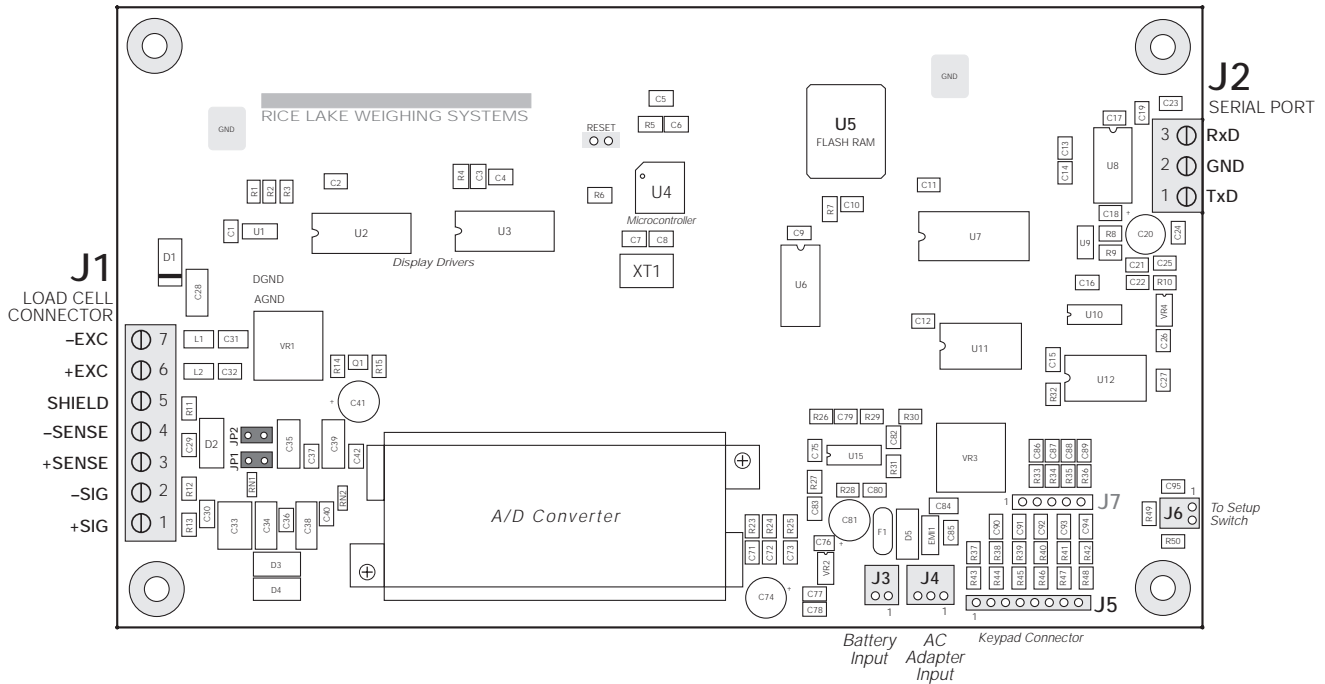

Figure 2-3. 9390 CPU Board
To attach cable from a load cell or junction box, remove connector J1 from the board. The connector plugs into a header on the board. Connect cable from the load cell or junction box through the load cell cable cord grip to connector J1 as shown in Table 2-1. If using 6-wire load cell cable (with sense wires), remove jumpers JP1 and JP2 before reinstalling connector J1 (see Figure 2-3). For 4-wire installation, leave jumpers JP1 and JP2 on.
To attach serial communications cables, remove connector J2 from the board (see Figure 2-3). Connect communications cable through cord grip to connector J2 as shown in Table 2-2.
2. Unplug all connections to the CPU board. See Figure 2-3 on page 6 for connector locations.